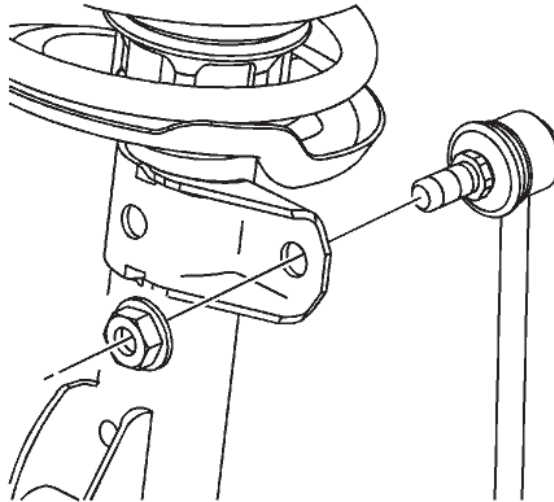

Fig. 2
2. Detach brake hoses, wheel speed sensors and stabilizer link from the strut assembly (Fig. 2).